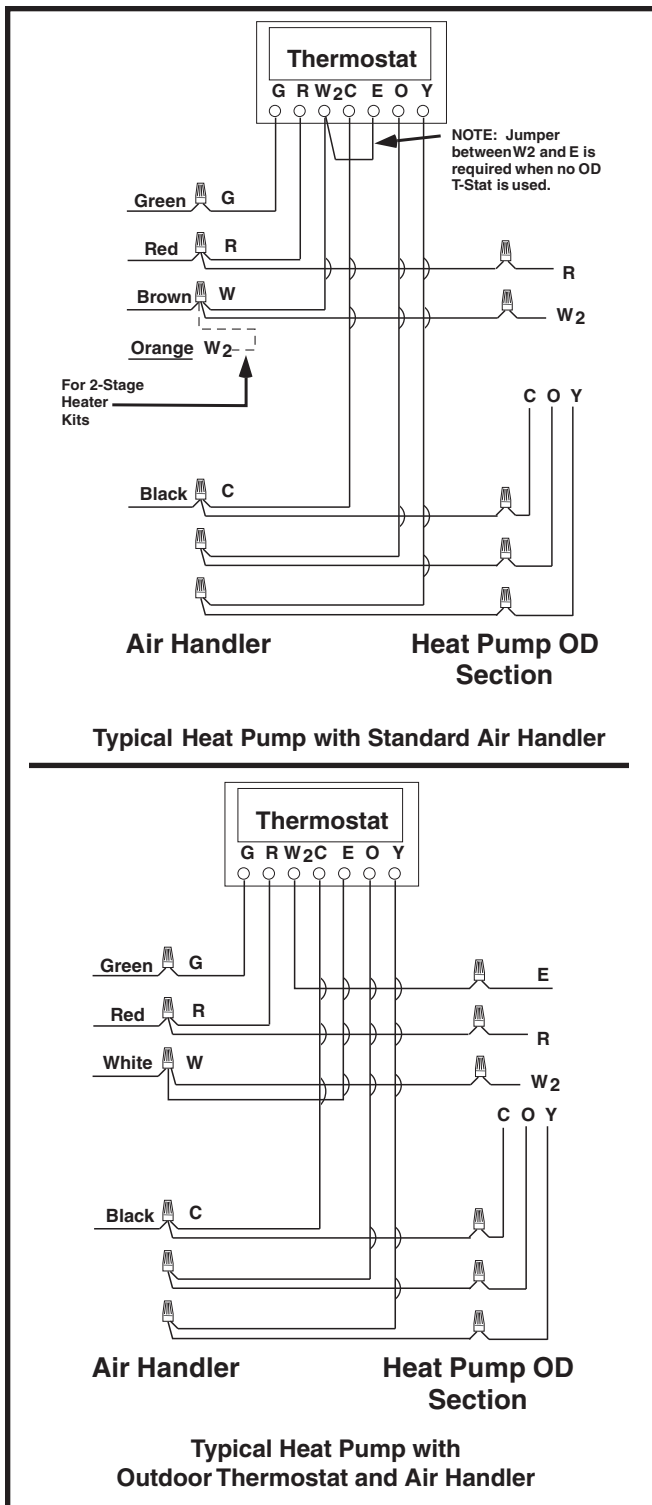

Figure 4. Typical Thermostat Connections
- The low voltage wires must be properly connected to the units low voltage terminal block (Figure 4).